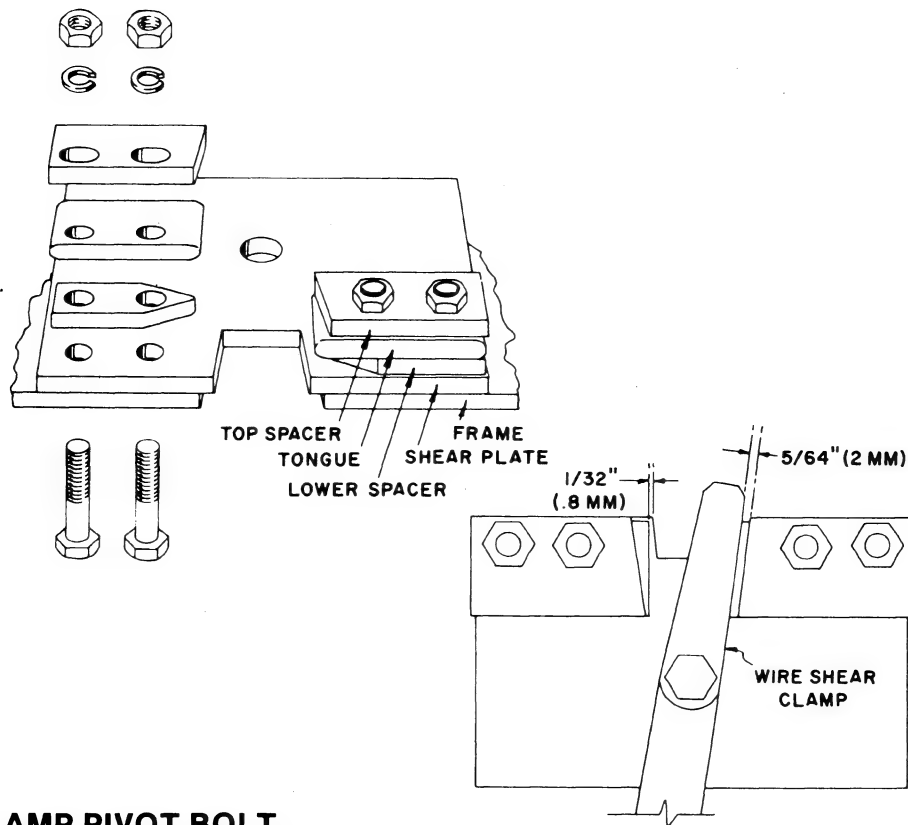

FIGURE 116
12. **Location of the tongue.** The tongue should be located so the end of the tongue is $\frac{1}{64}$ " - $\frac{1}{32}$ " (0.4-0.8 mm) away from the shear edge as shown in Figure 116. The wire clamp lower spacer, tongue and upper spacer should be located square with the front edge of the shear plate as shown in Figure 116.